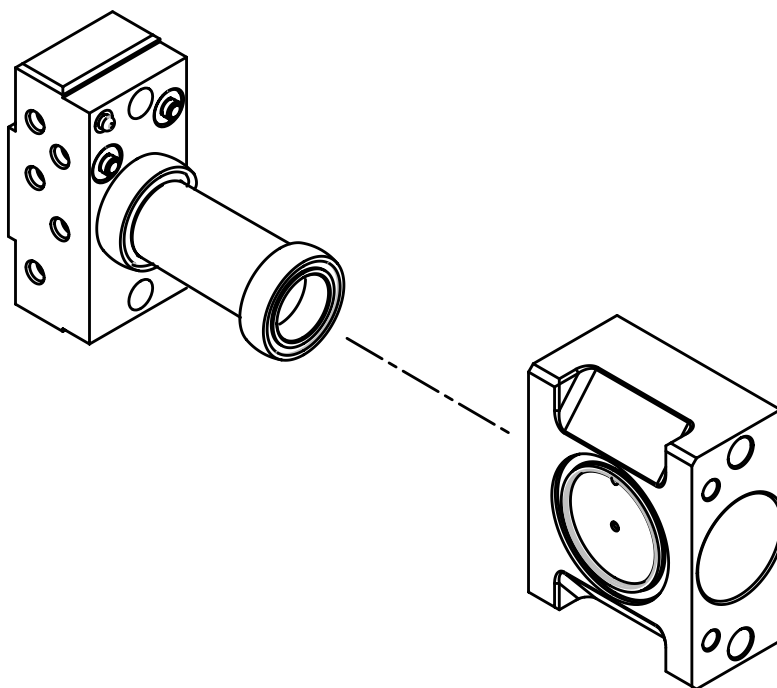

Figure 67. Inner electrode mounted on the left endcap, and the outer electrode
3. Remove the outer electrode from the inner electrode and left endcap. See Figure 67.
3. Reinstall the outer electrode by inserting the inner electrode and alignment bushings into the outer electrode, as Figure 67 on page 92 shows.